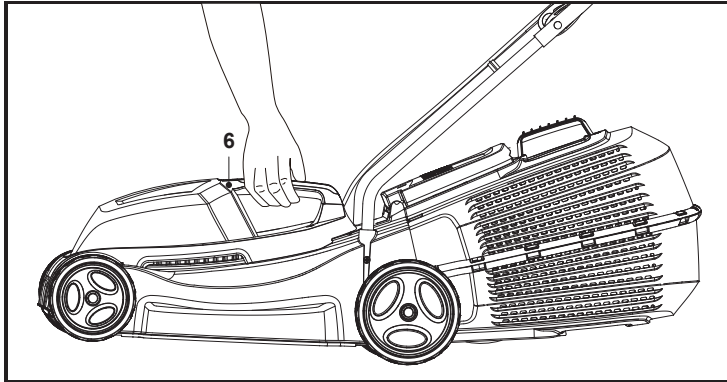

Fig. 7
If you want to transport to a higher place or a step you can make use of the carry handle (6) (Fig. 7).